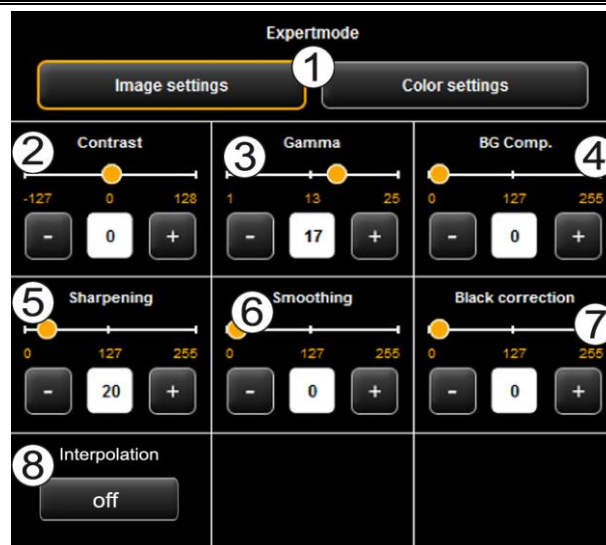

Figure 5.27: Expert mode - Image settings
3. *Expert mode*: By pressing this button you access a submenu with numerous further setting options (see Figure 5.27).
1. *Image settings / Color settings*: If you switch to "Image setting", you see the submenu depicted in Figure 5.27.